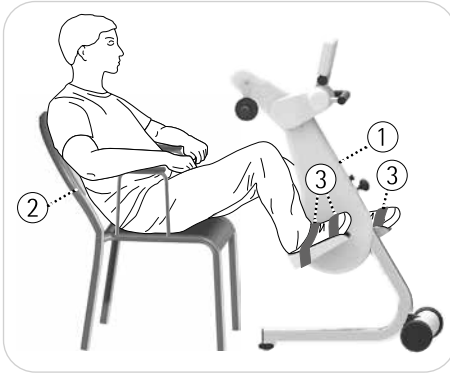

Fig. 5.22
see Fig. 5.22 If your chair has an adjustable backrest, you can use the MOTOMed to train in a comfortable, semi-reclining position. To do so, bring the MOTOMed ① into an upper position and fold the backrest ② of the chair backwards. Also make sure that the knee joints are not fully stretched.